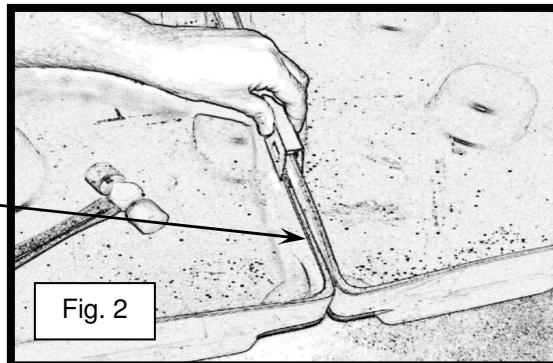

Fig. 2
- 2) Join any two accumulation centers together (see fig. 2). Place Joining Clip over the top edges of the accumulation centers (see fig. 2).
- 3) Once the Joining Clip is cupped over the top edge of both accumulation centers, proceed to push down the clip with a mallet or small hammer (See fig. 2 and 3). **NOTE: Please do not use your hand. Pounding clip with your hand may result in injuries.**